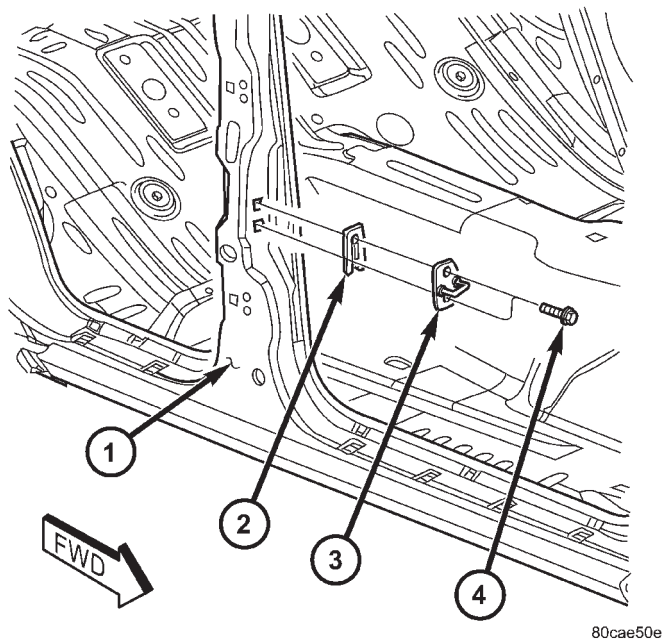

Fig. 8 LATCH STRIKER
- (1) Remove the bolts. (Fig. 8)
- (2) Remove the latch striker and the spacer, if equipped.